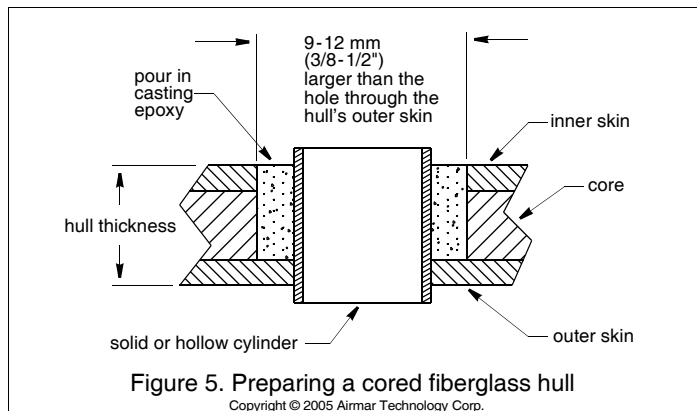

Figure 5. Preparing a cored fiberglass hull
2. Using a 51 mm or 2" hole saw, cut the hole from outside the hull through the *outer* skin only (see Figure 5).